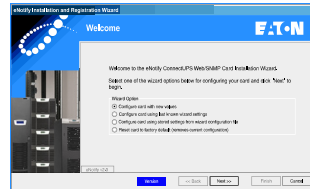

Figure 27. Welcome
1. Double-click the **eNotify Installation and Registration Wizard** icon on your desktop to open the wizard. The Welcome screen opens (see Figure 27).